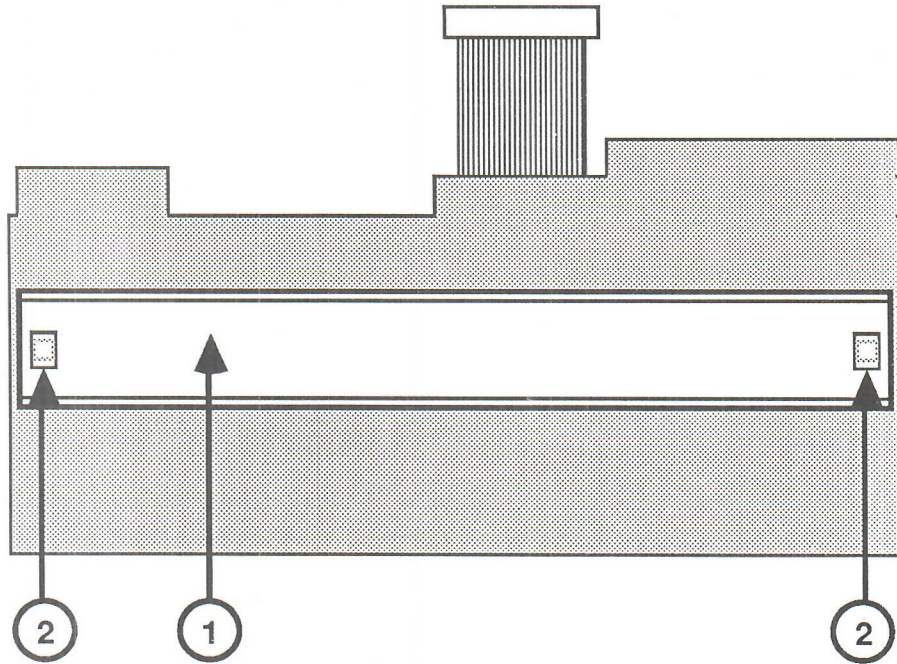

FIGURE 11
6. Some IIc keyboards have a plastic brace attached to the bottom (Figure 11, #1). Before reinstalling the keyboard, check to see if this brace is present. If it is, perform steps 6a through c, to replace the brace. If there is no brace, proceed to step 7.
- a) Using a pair of needlenose pliers, squeeze the nylon mounting button holding the brace to the keyboard. At the same time, pull the brace away from the keyboard (Figure 11, #2). Repeat for the other mounting button, and remove the brace.